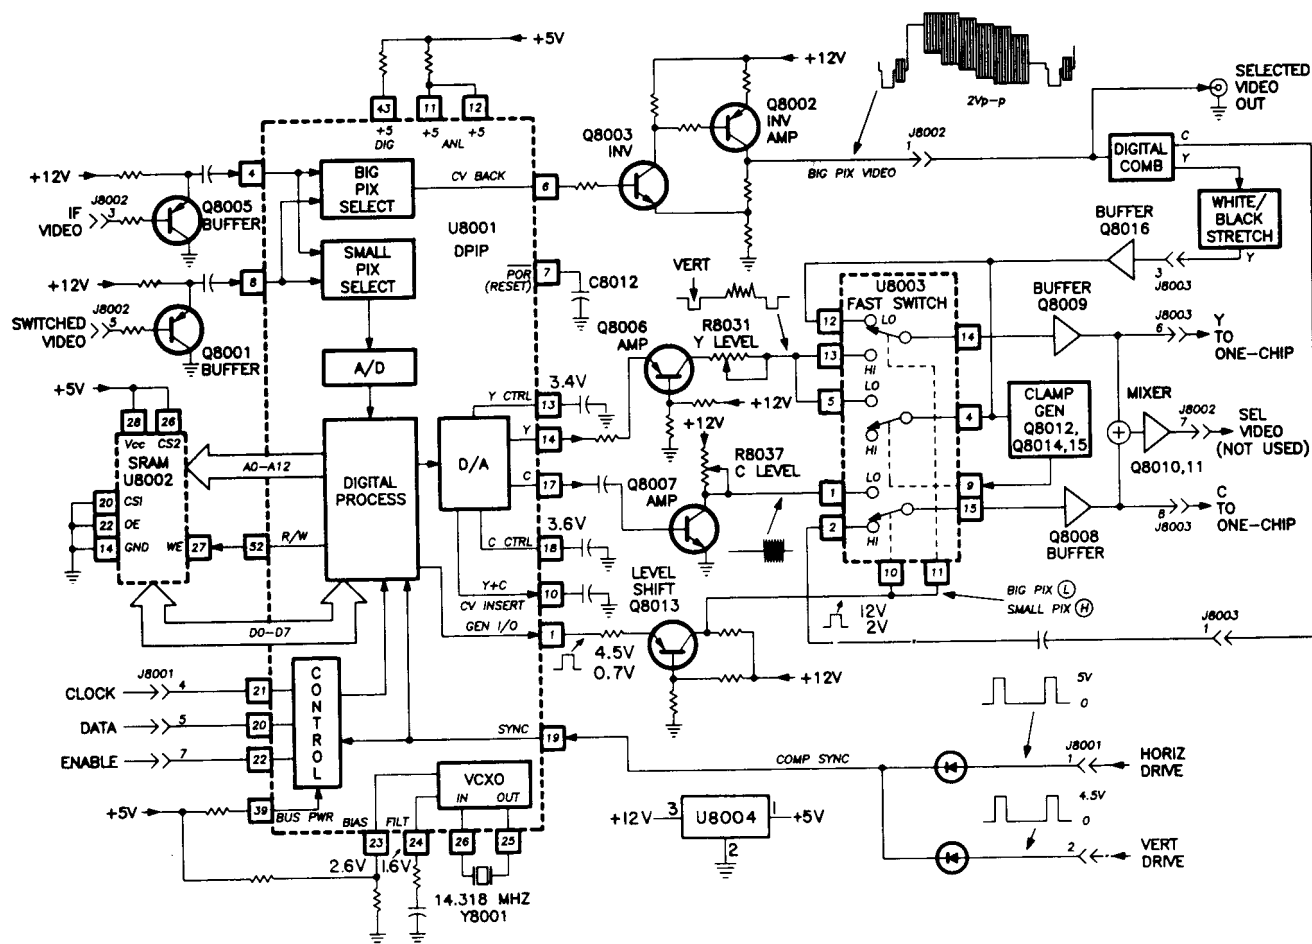

Figure 40, D-PIP Circuit Block Diagram
Since the DPIP module is much simpler and integrated than the SPIP module, troubleshooting is performed by simply signal tracing the "Big Pix" or "Insert Pix" through the circuit as shown in figure 40.
1. Monitor the tuning voltage at the test point through the hole in the tuner shield as shown in figure 40. The tuning voltage should vary anywhere from 1 VDC to about 30 VDC while attempting to tune a channel. If it does change when you select various channels, you can be sure the tuner is receiving commands from system control.